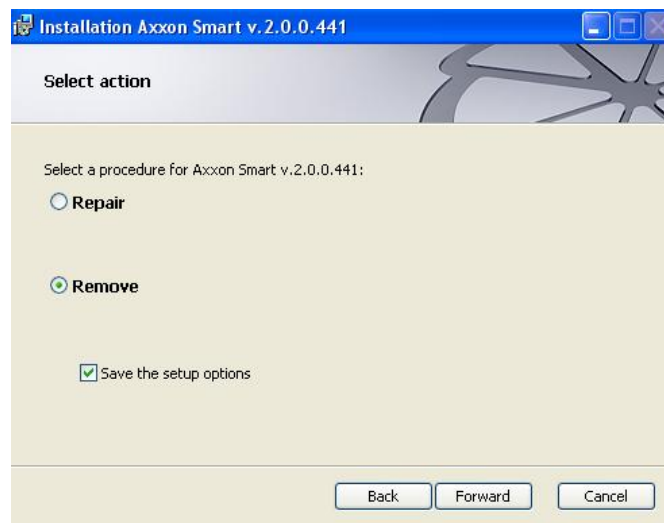

Fig. 3.2—17 Reinstallation type selection dialog box
2. Select **Remove** (see Fig. 3.2—17).